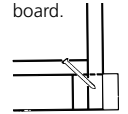

Fig9 Fix the front base board.
- Mark out and cut one 1920mm length of 140x45mm treated pine and screw fix in place on the base frame (see fig 9). Pre-drill and drive the screws at each end in at an angle towards the shelf support upright as shown.